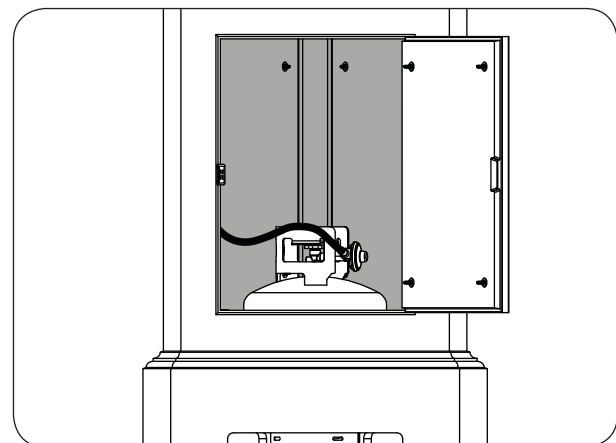

Fig. 30-3 L.P. Cylinder placement
5. The propane cylinder (not included) is to be located inside the base of the unit, via the storage door opening (see Fig. 30-3).